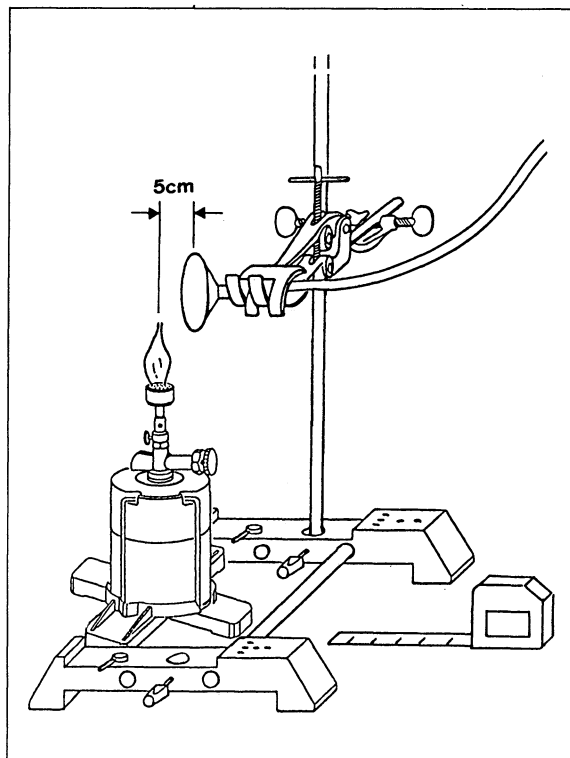

Fig. 1 Setup for investigating the absorption of thermal radiation
1. Assemble all parts of the stand as shown in fig. 1.
6. Set up the butane gas burner and radiometric probe in such a way that the probe is located some 5 cm away from the middle of the burner flame (fig. 1).